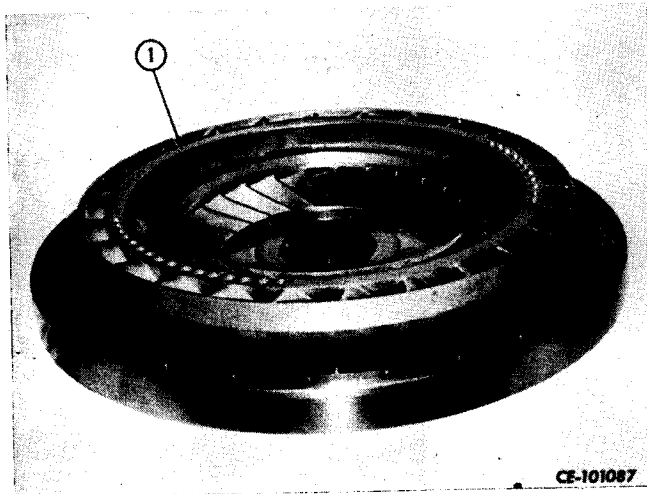

Figure 3-23
Invert drive housing (2, Fig. 3-23) and pull turbine assembly (1) from housing.